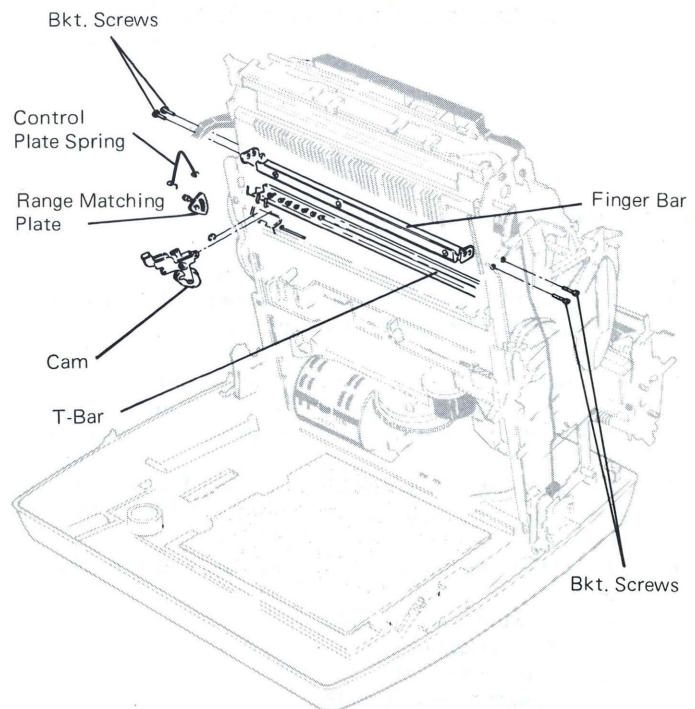

Figure 15 – LH Operational Cam Removal
3. Remove the LH control plate spring (Figure 15).